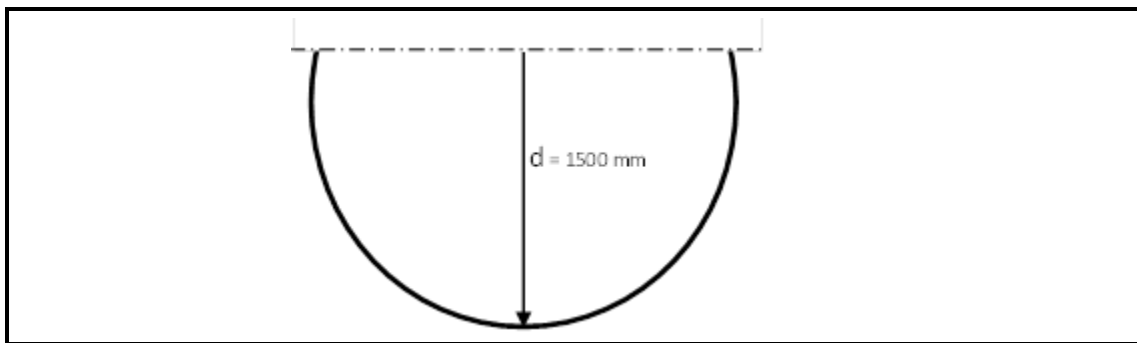

FIGURE 1
- 2.1 FIGURE 1 shows a cross section of an open semicircular channel which is full of water. The gradient of the channel is 1 in 1 850 and C in the Chézy formula is 60. The maximum depth of the channel is 1 500 mm.